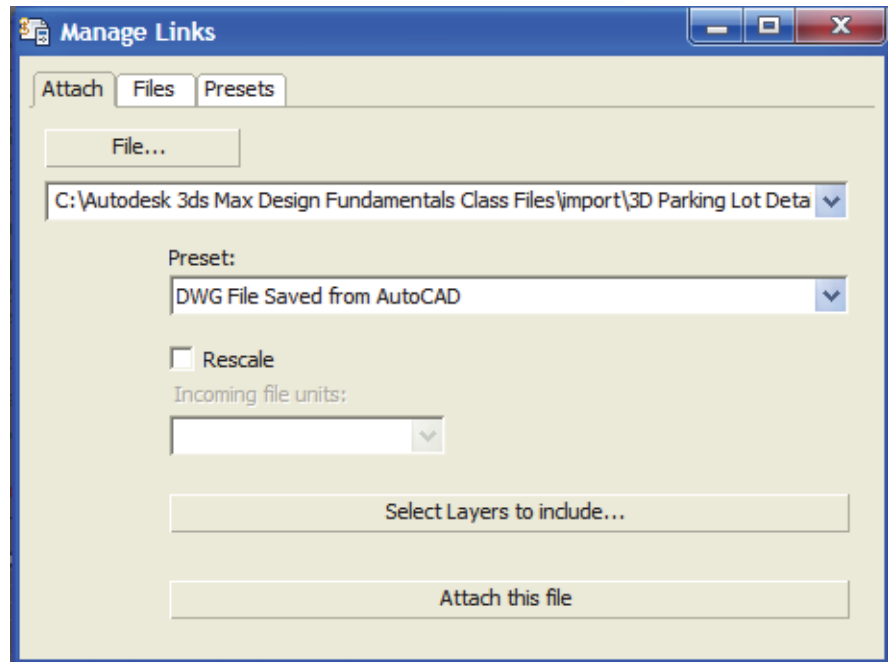

Figure 3–20
3. The Manage Links dialog box opens with the path and the filename displayed, as shown Figure 3–20.